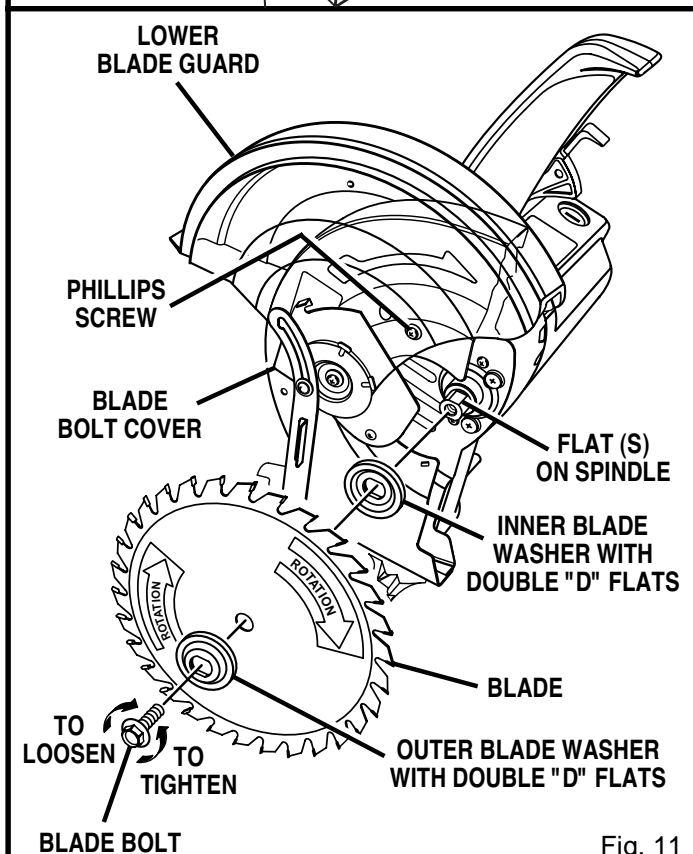

Fig. 11
- Loosen the phillips screw on the blade bolt cover until blade bolt cover can be raised. *See Figure 11.*
- Fit saw blade inside lower blade guard and onto spindle. The blade teeth point downward at the front of saw as shown in figure 11.